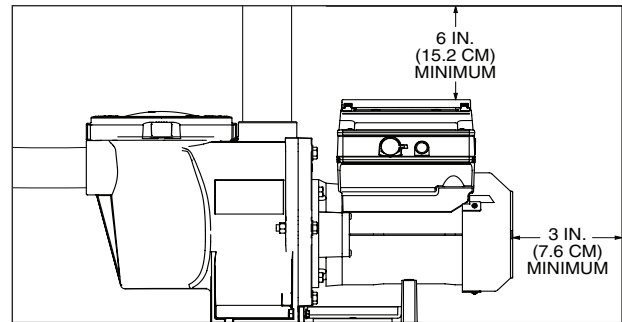

Figure 1: Pump Rear and Overhead Clearance
6. Install the pump with a rear clearance of at least 3-inches (76.2 mm) so that the motor can be removed easily for maintenance and repair. See **Figure 1**.